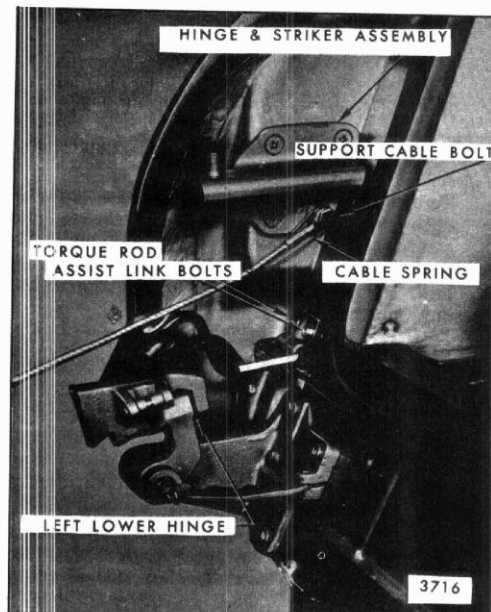

Fig. 9-34-Dual Acting Tail Gate Left Upper and Lower Hinge and Support Cable Attachment
1. Oper. tail gate sufficiently (partially open) as a gate to achieve a neutral torque rod position or until tension on torque rod has been relieved. With torque rod in a neutral position, remove torque rod assist link retainer to body attaching bolts (Figure 9-34).
2. Support tail gate in a full-open gate position and remove support cable to left upper hinge and striker assembly attaching bolt (Figure 9-34).
4. WITH THE AID OF A HELPER, remove left lower hinge to body attaching bolts (Figure 9-34).